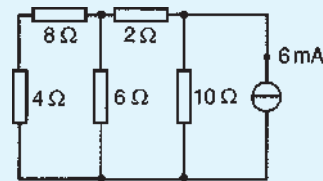

Figure 13.64
- Determine the current flowing in the 6Ω resistance of the network shown in Fig. 13.64 by using Norton's theorem. [2.5 mA]